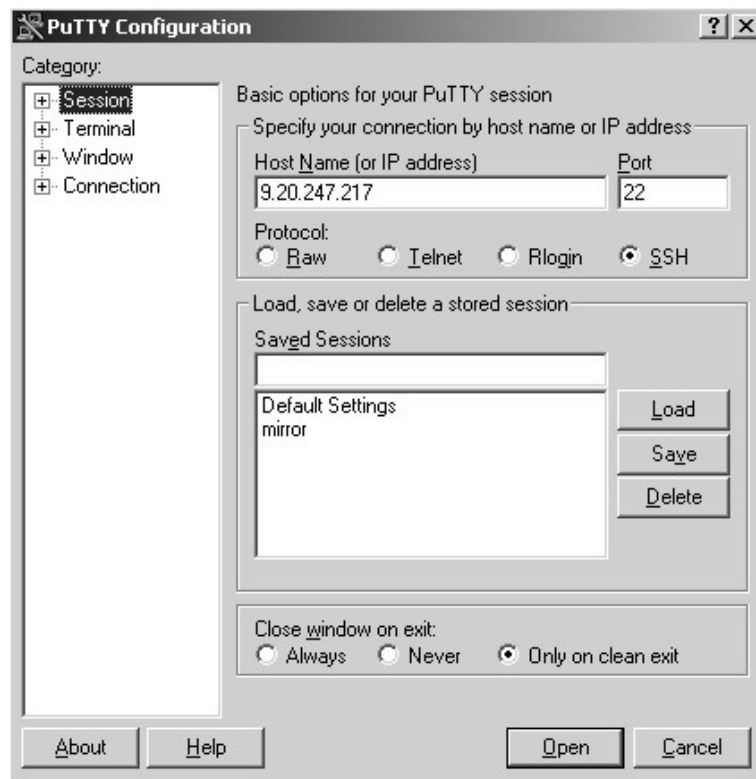

Figure 26. PuTTY Configuration panel –Basic options
2. The PuTTY Configuration panel is displayed; see Figure 26. Enter the IP address for the device (usually the cluster IP address) in the "Host Name (or IP Address)" field and select the "SSH" option for Protocol.